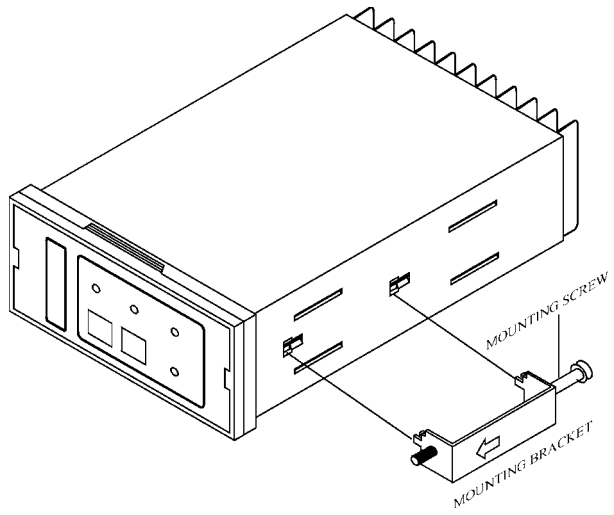

FIGURE 5 PANEL METER WITH MOUNTING BRACKET AND SCREW
2. Remove the mounting brackets assembly from the panel meter and insert the panel meter into the cutout. (REFER TO FIGURE 5)